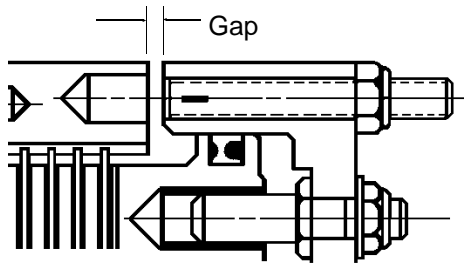

Figure 6
- 2.3.2 The shafts must be located such that the gap between the drive ring (5) and cylinder (8), when the element is installed, is .190 +/- .030in. (4,83 +/- 0,76 mm). See Figure 6.